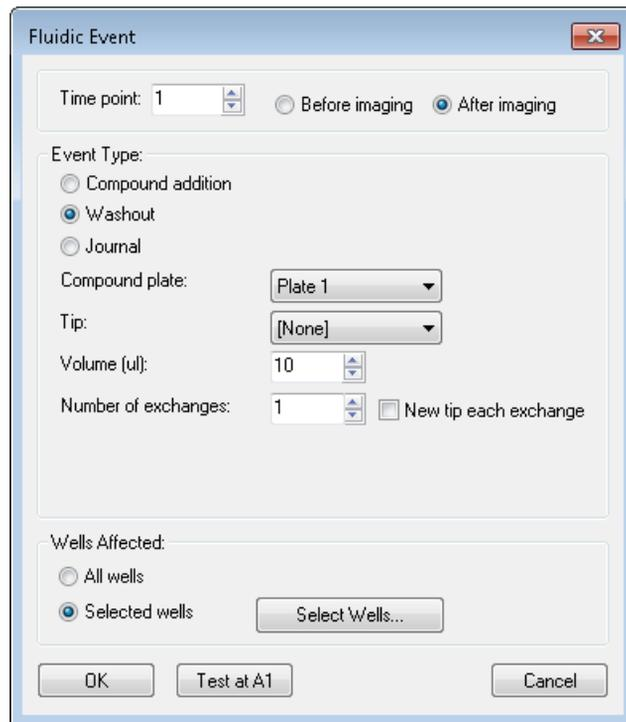

Figure 2-16: Fluidic Event dialog Washout Event
- ◆ **Washout:** A Washout event removes liquid from the sample plate and replaces it with liquid from the compound plate. There is a one-to-one mapping between the wells as shown in Figure 2-16.